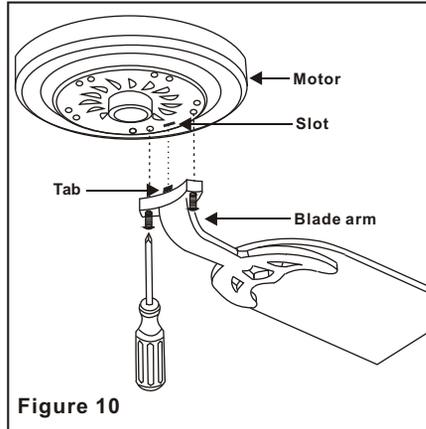

Figure 10
Step 3 Fasten the blade arms to the motor by inserting the tab from the blade arms to the slot in the bottom motor housing, then tighten the two screws and washers already installed in the blade arms. (Fig. 10)